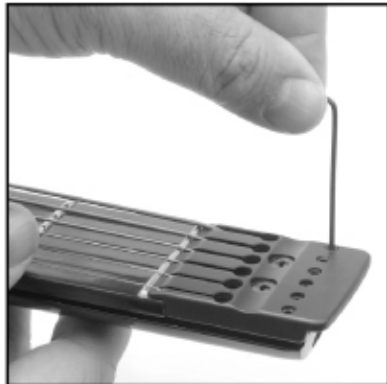

Figure 3
- To install strings, start by putting the ball end into the headpiece **first**, then drop the other ball into the tuner jaws. Tighten tuning knob until proper pitch is achieved. Stretch string and retune (Figure 3).
- To remove strings, turn tuning knob counter-clockwise until the string ball is fully visible and can be removed. Do not loosen beyond this point. Remove the ball from the saddle jaw (Figure 1). Using the Hex wrench provided, loosen the corresponding Hex screw at the head-piece until you can pull string out of its slot. (Figure 3).